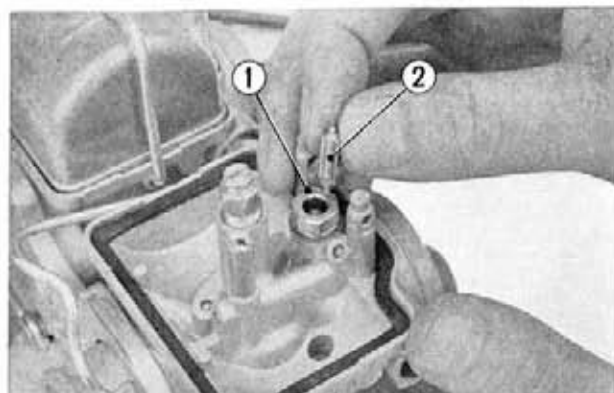

Fig. 6-11 ① Float valve seat ② Float valve
② Cable adjuster lock nut
2. When either the float valve or valve seat requires replacement, they should be replaced in set. (Fig. 6-11)